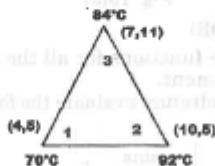

Fig. 14(a)
ii) Nodal values of the triangular element is shown in Fig. 14 (a). Evaluate element shape functions and calculate the value of temperature at a point whose coordinates are given (5,7). (6)